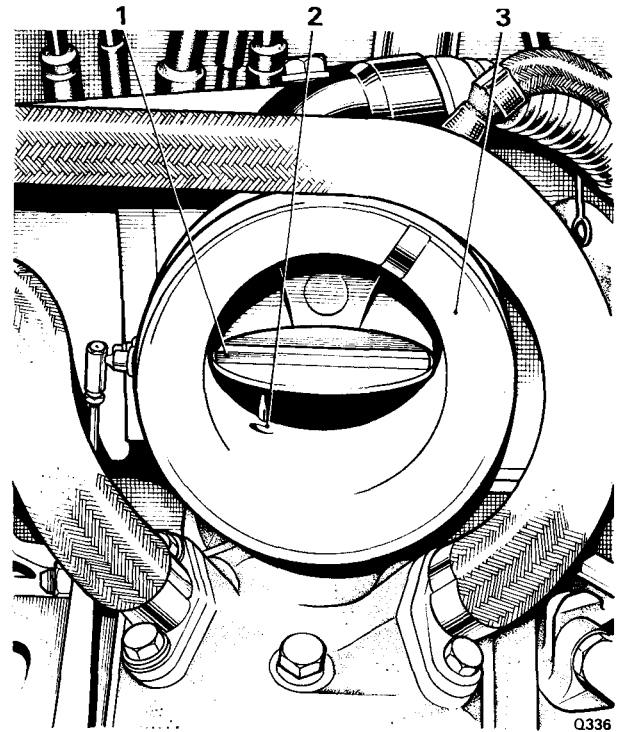

FIG. 21 HOT IDLE MIXTURE COMPENSATOR FEED
1. Remove the air intake hose, blank off the hot idle compensator feed drilling (see Fig. 21) and replace the hose.